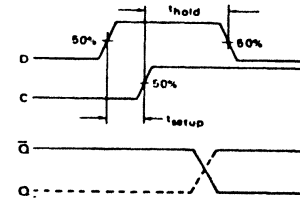

FIGURE 11a - SETUP AND HOLD WAVEFORMS FOR MECL LOGIC DEVICES
sent at the Data input (D) to insure proper operation of the device. The t_{hold} is defined similarly as the minimum time after the positive transition of the clock pulse (C) that the information must remain unchanged at the Data input (D) to insure proper operation. Setup and hold waveforms for logic devices are shown in Figure 11a.